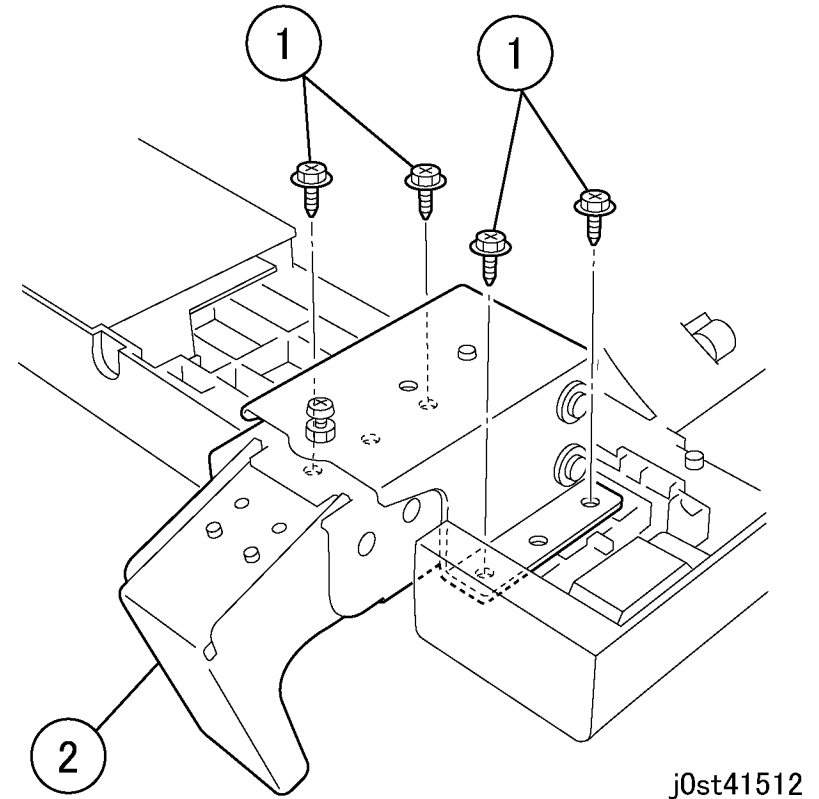

Figure 1 Removing the Left Counter Balance
6. Remove the Left Counter Balance (Figure 1).